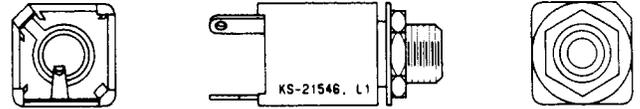

Fig. 8—KS-21546, L1, Jack
2.04 **KS-21546, L1:** The KS-21546, L1, jack (Fig. 8) is a 2-conductor jack, 1-3/8 inches long. It is used with a 347-type plug in the J79911NA data test set.